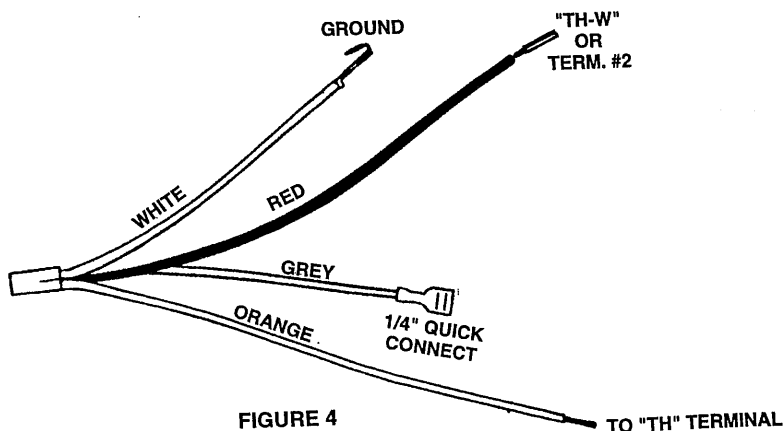

FIGURE 4
A. Locate the orange lead wire on the 1751-724 adaptor, See Figure 4. Wire nut it to the power lead that came off terminal #5 or #6 on the old unit.